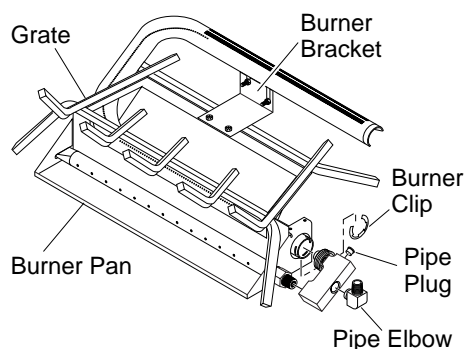

Figure 7 - Installing Burner
7. Place the grate assembly over the burner pan. Install the rear burner bracket onto the grate with the 2 black Phillips head #10 screws provided. Do not tighten at this time (see Figure 7).
8. Install the "U" burner from the left side with the open end in the front (see Figure 7). Hold the rear of the burner higher than the bracket. Slide the burner over the air restrictor fitting. Lower the rear of the burner into the slots on the burner bracket. Install the burner clip and tighten the nuts and screws.